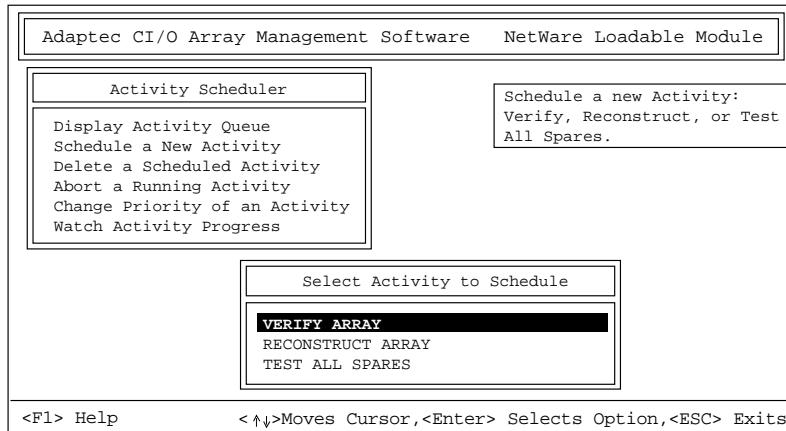

Figure 6-1. Select Activity to Schedule Window
- 2 Select **Schedule a New Activity** from the Activity Scheduler menu. A screen similar to Figure 6-1 appears.